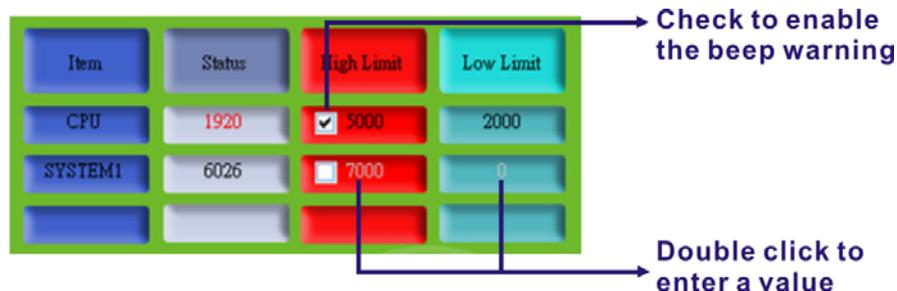

Figure 7-9: Fan Page – High Limit and Low Limit
Step 1: Double click a high limit value or a low limit value to enter the new value (**Figure 7-9**).
Step 2: Check the high or low limit value to have the system use the beep warning when the specified fan speed is greater or smaller than the high limit or low limit (Figure 7-9). (Make sure to enable beep/audio alarm on the Load/Save Page. Refer to **Section 7.8**)